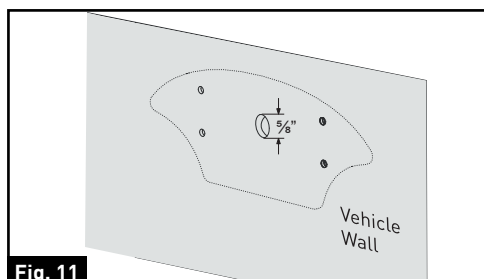

Fig. 11
- Drill a $\frac{5}{8}$ " center hole on the vehicle wall using a $\frac{5}{8}$ " hole saw. (Fig. 11)